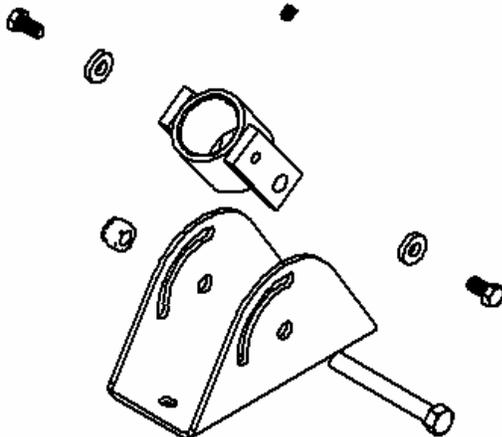

Figure 1. Assembly
1. Set coupler in place in the center of ceiling plate and slide ½"-13 X 4" hex head bolt through both parts (see Figure 1). Secure using ½"-13 Nylock nut.
2. Install two 3/8"-16 X 5/8" hex machine screws, with 3/8" washers, through adjusting slots on either side of bracket into holes in the coupler assembly (see Figure 1). Do not tighten.